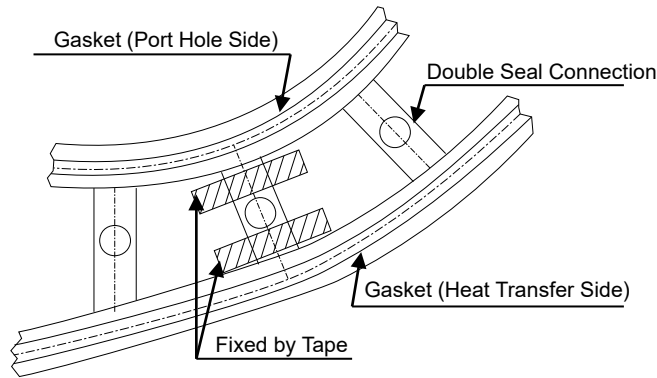

Fig. 8 Procedures for fixing by Tape
- 2) After cutting the protrusion of the port hole, Fix double seal connection to the plate by adhesives "S-1" in case of generic. In case of food applications, Peel back one side only of Double-Faced Tape. Fix double seal connection to the plate by the tape. Refer to below Fig. 8.